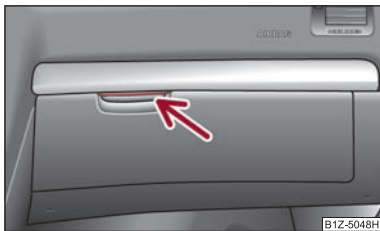

Fig. 71 Dash panel: Storage compartment on the front passenger side
- Press the handle of the lid ⇒ fig. 71 - the lid folds down.